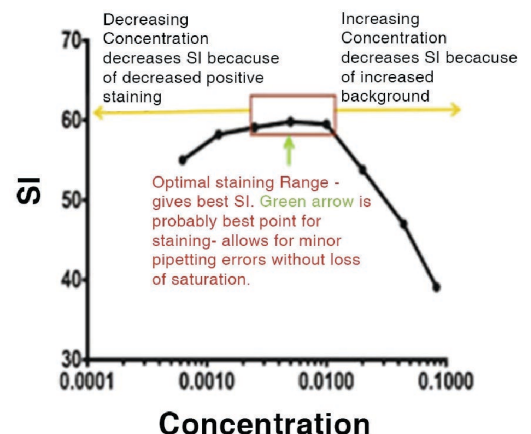

Figure 1 (c) Leinco Technologies, Inc.
5. Determine the mean fluorescence intensity (MFI) of the positive and negative populations and the standard deviation (SD) of the negative population. Calculate the Stain Index  $\Delta$  (SI):  $(Pos\ population\ Median\ FL - Neg\ population\ Median\ FL) / 2 * Neg\ population\ rSD$
6. Determine the optimal antibody concentration as shown in Figure 1.